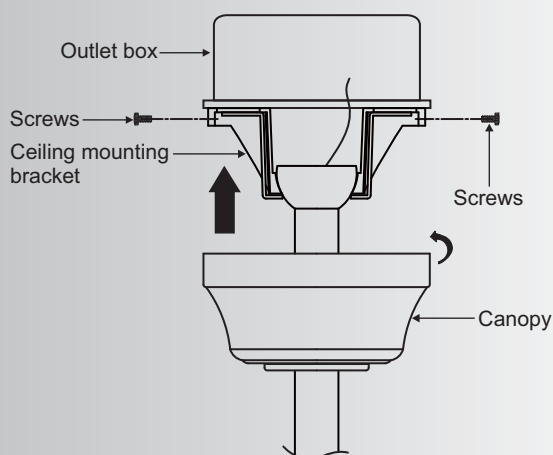

Fig. 13
Step 2. Slide the canopy up to ceiling and attach the canopy to the ceiling mounting bracket using 4 screws at the top edge of the mounting bracket. Insert each screw through the canopy mounting hole and into the mounting bracket. Tighten all screws securely. (Fig. 13)